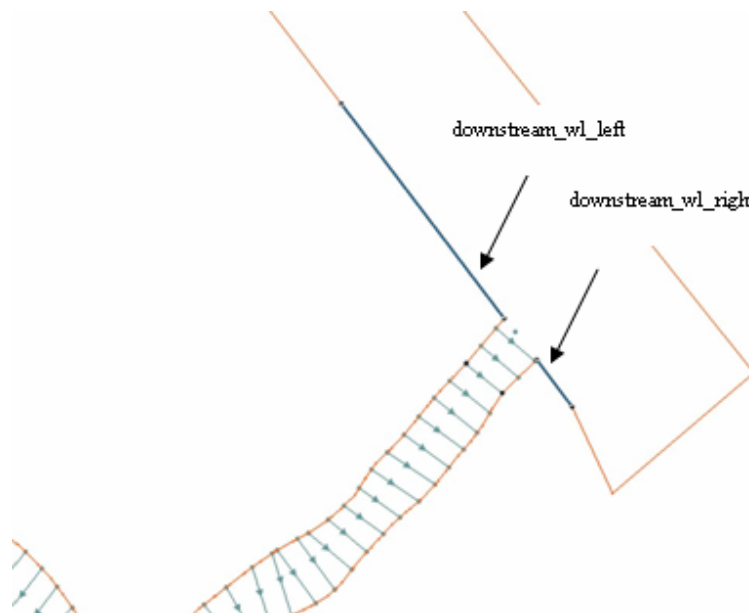

Figure 19: Location of Downstream BC Arcs
2. Using the *Select Feature Arc*  tool select the two arcs along the downstream side of the 2D domain (see Figure 19).